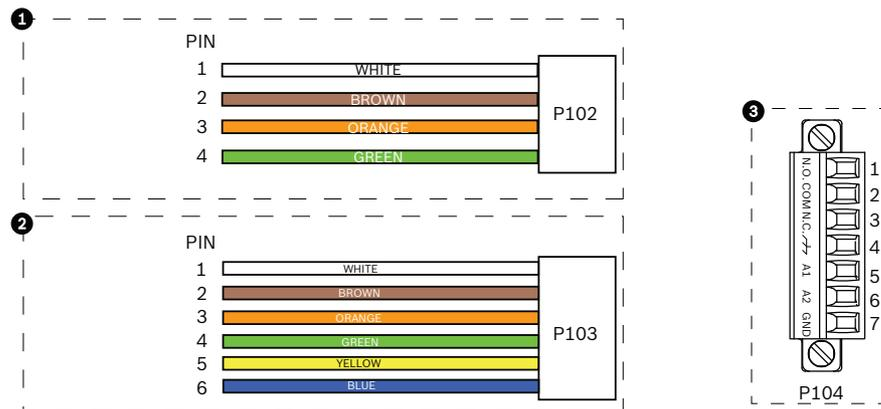

Figure 2.4 Alarm and relay connectors
11. If you are connecting supervised alarms and relays, attach the supplied 7-pin Relay Connector to the appropriate incoming wires. Refer to *Figure 2.4, Page 14*, above, for the wire connections. Refer to *Section 4 Alarms and Relay Connections, page 36* for more details about wiring alarms and relays.